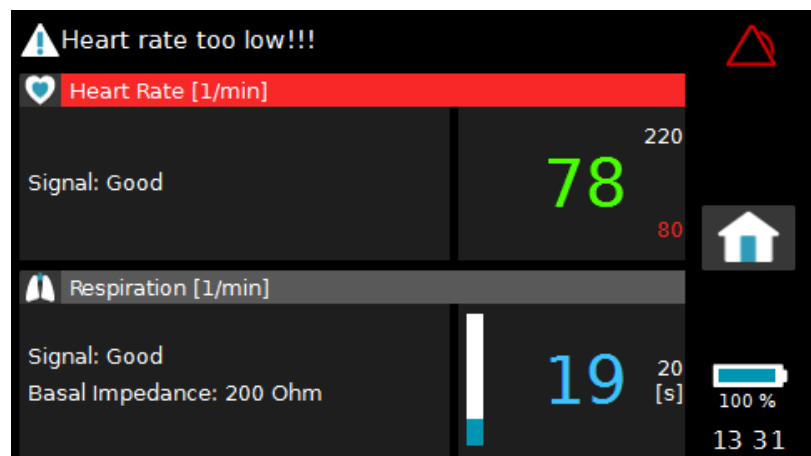

Fig. 25 Information on the Monitor Screen during a Patient Alarm
- the monitor screen outputs the following visual information, as shown in Fig. 25: